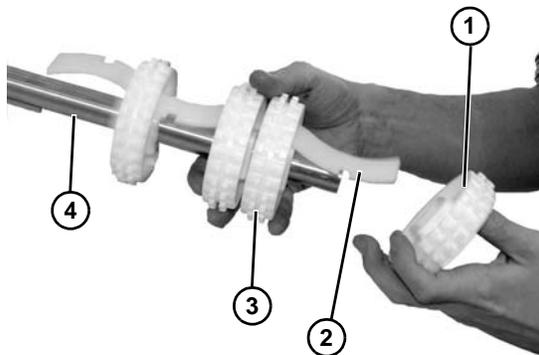

Figure 42
- Slide entire sprocket assembly slightly outward, and remove the first sprocket (Figure 42, item 1) off the drive spindle and alignment bar (Figure 42, item 2).
- Remove remaining sprockets (Figure 42, item 3) off the alignment bar as you slide entire assembly off the drive spindle (Figure 42, item 4).